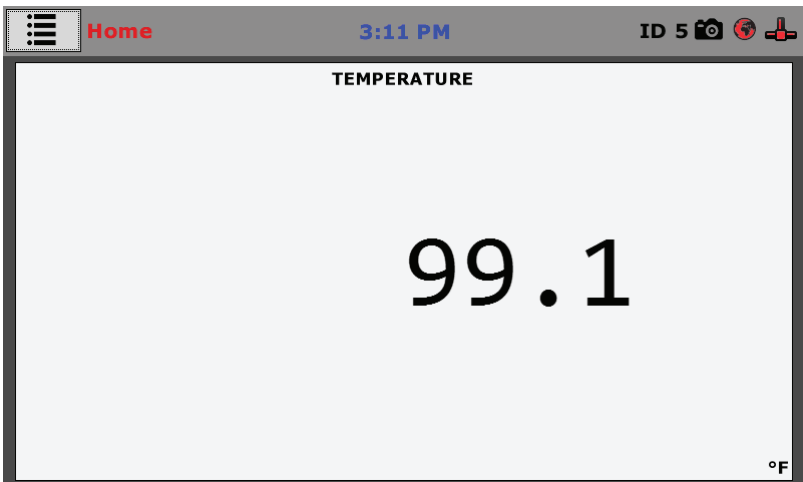

Figure 3
- 6) Figure 3 shows the home screen that appears on the LCD display when the unit is first turned on.